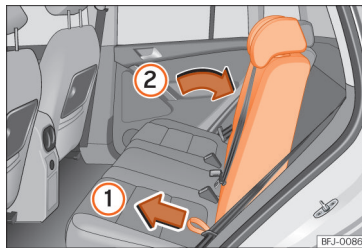

Fig. 92 Rear seat backrest adjustment.
- Press the right or left backrest of the seat with one hand and, at the same time, pull the corresponding cord with the other >>> Fig. 92 ①.
- Move the backrest with your hand to the desired position; there will be some resistance ②